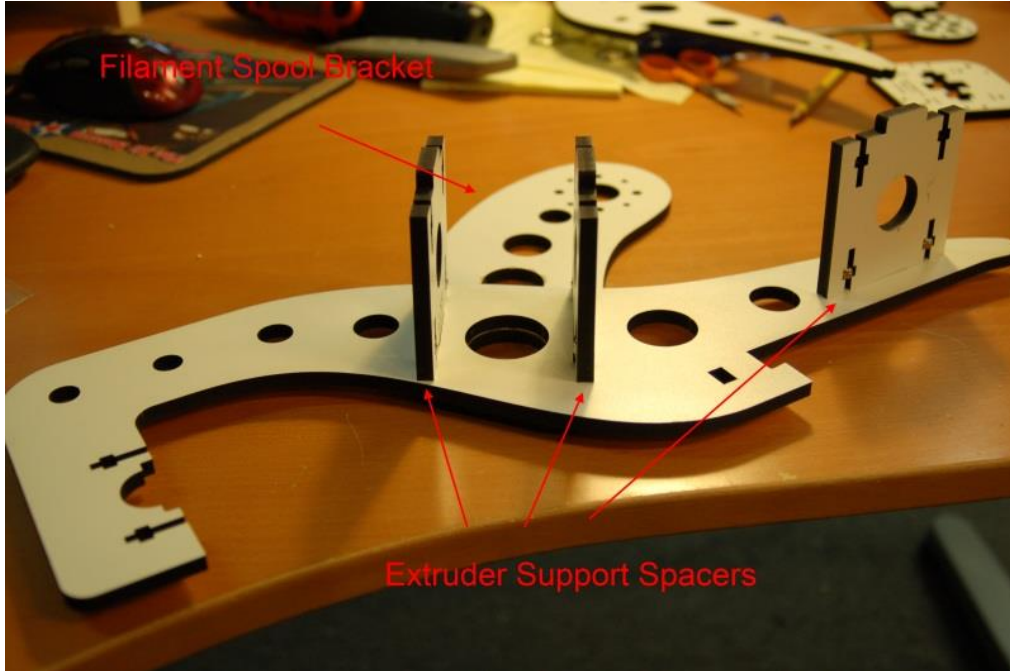

Figure 40 - Filament Spool Bracket and Extruder Support Spacers
13.2 - Attach the filament bracket and the Extruder Support Spacers as shown in Fig. 40.